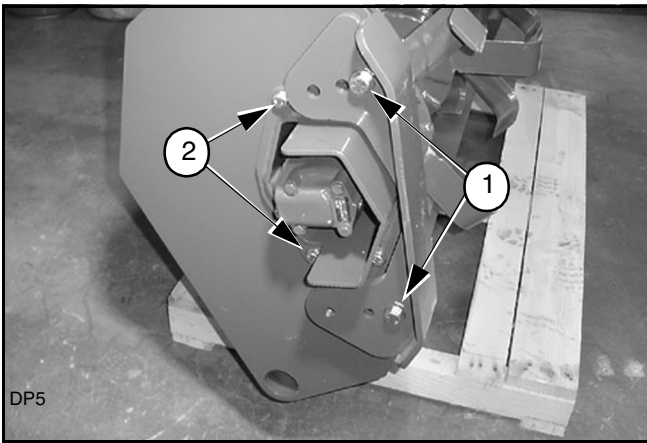

Figure 10.
Remove the two depth skid bolts (1) and four motor housing bolts (2) from one side as shown in Figure 10.